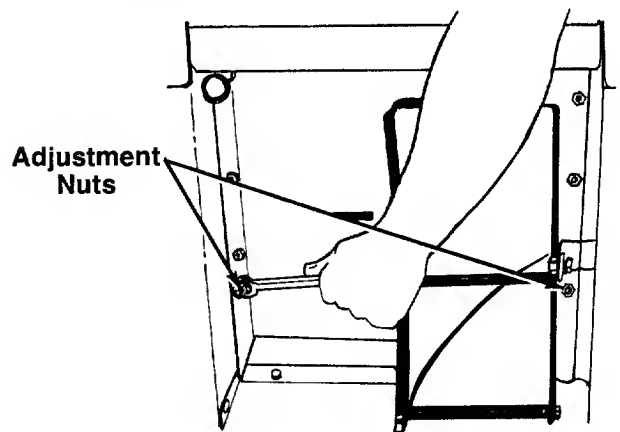

FIGURE 16.
3. Tighten the adjusting nuts as shown in figure 16 until you have the proper tension.